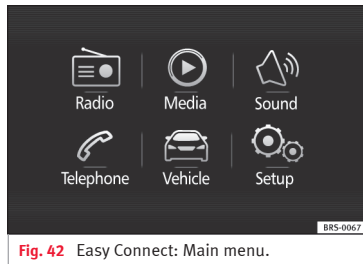
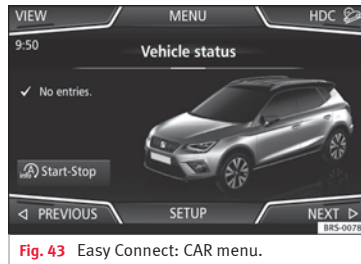

Fig. 42 Easy Connect: Main menu.
Fig. 43 Easy Connect: CAR menu.
- Press the system's **MENU** button, then the system's **Vehicle** function button **»» Fig. 42** or the system's **CAR** button to go to the **Vehicle** menu **»» Fig. 43**.
- Press the **SETTINGS** function button to open the menu **Vehicle settings** menu **»» Fig. 43**.